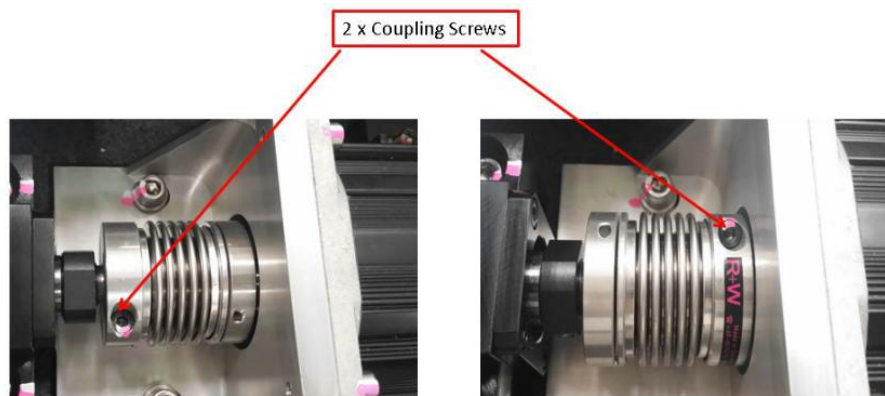

Figure 20 Coupling Screws
21. Tighten back 2 x coupling screws as below Figure 20.